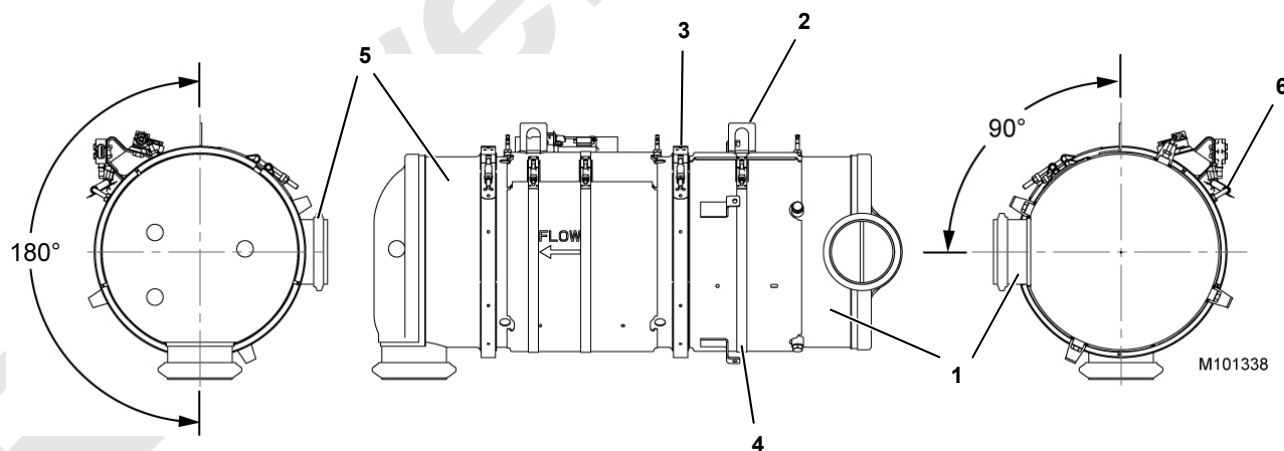

FIGURE 7-15
2. Check the inlet orientation of any replacement module per Figure 7-15. If it is not oriented correctly, perform the re-orientation procedure. See DPF/DOC Module Inlet Re-orientation on page 7-16.
See Figure 7-15 for the following procedure.
Re-orient a replacement DPF/DIC if it is not oriented per Figure 7-15. If the inlet section (1) cannot be re-oriented, contact the supplier for a replacement module that has all components in the proper orientation.